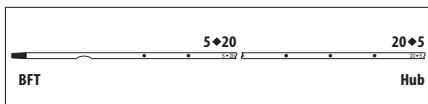

Figure 2
- Blue FlexTip® Catheters are marked to identify desired amount of catheter to be trimmed and length of catheter that remains (refer to Figure 2).
NOTE: Centimeter double numbering pattern is as follows (refer to Figure 2):